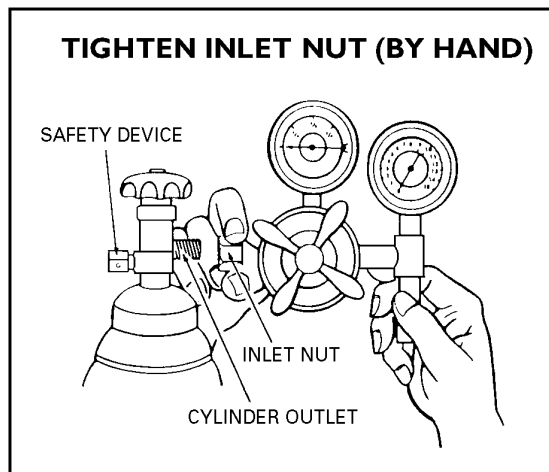

Figure 3-11
- (1) Hold the gauge in an upright position.
- (2) Insert the cylinder regulator inlet into the oxygen cylinder's threaded outlet in an upright position.
- (3) Hand-tighten the inlet nut, located on the cylinder regulator, and then completely tighten the inlet nut with a nonsparking wrench. (See Figures 3-11 and 3-12.)